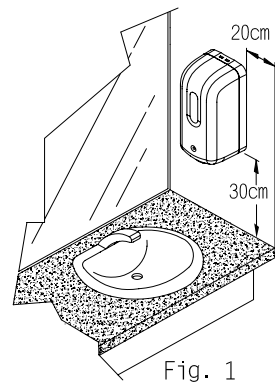

Fig. 1
2. Note the distance between two dispensers from wall must be >30cm. (As shown in Fig. 1&2)